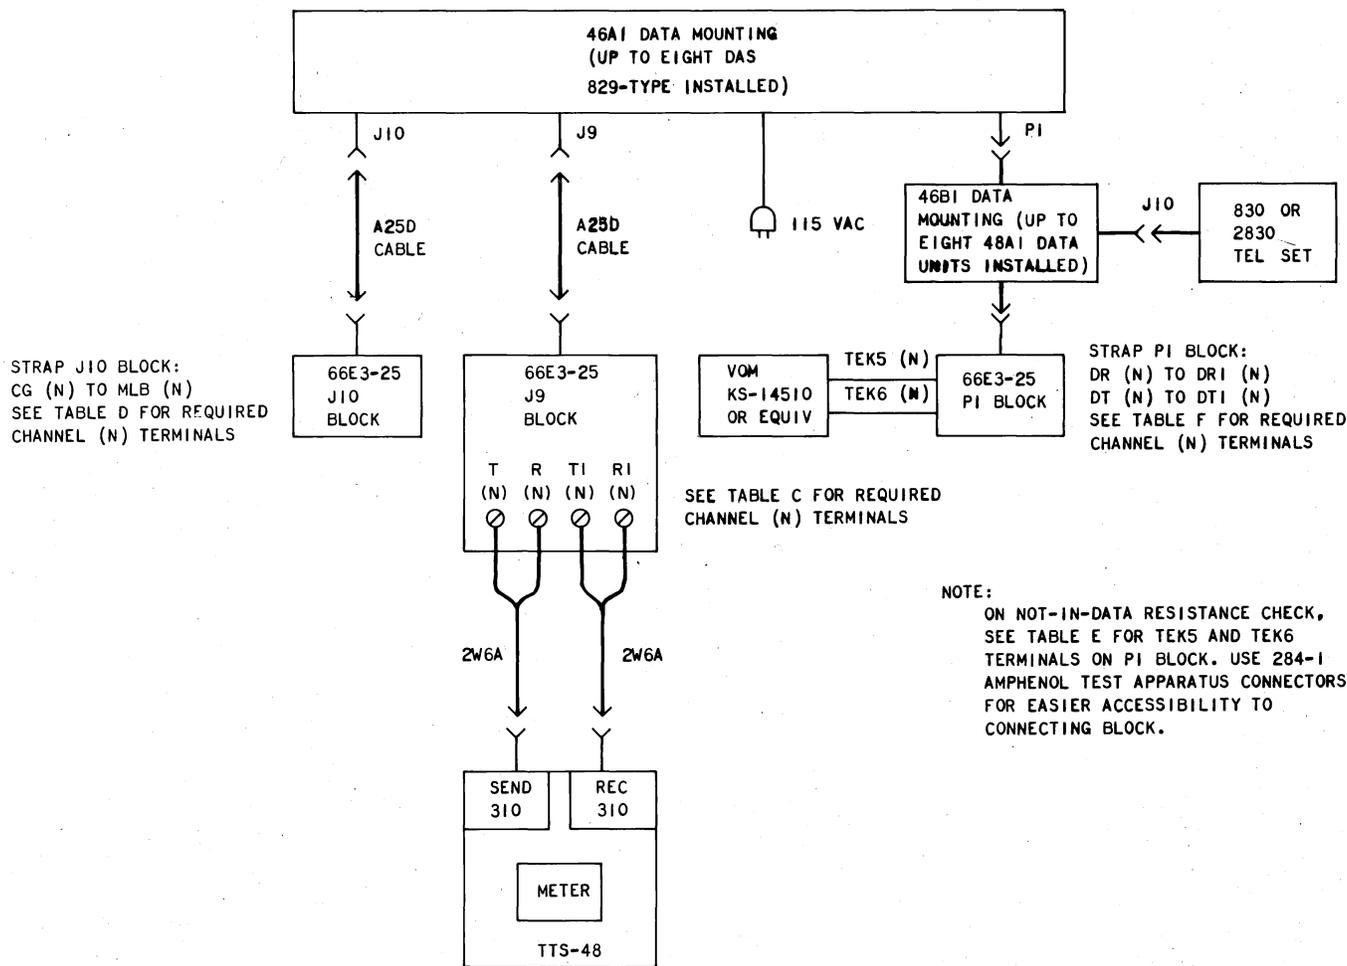
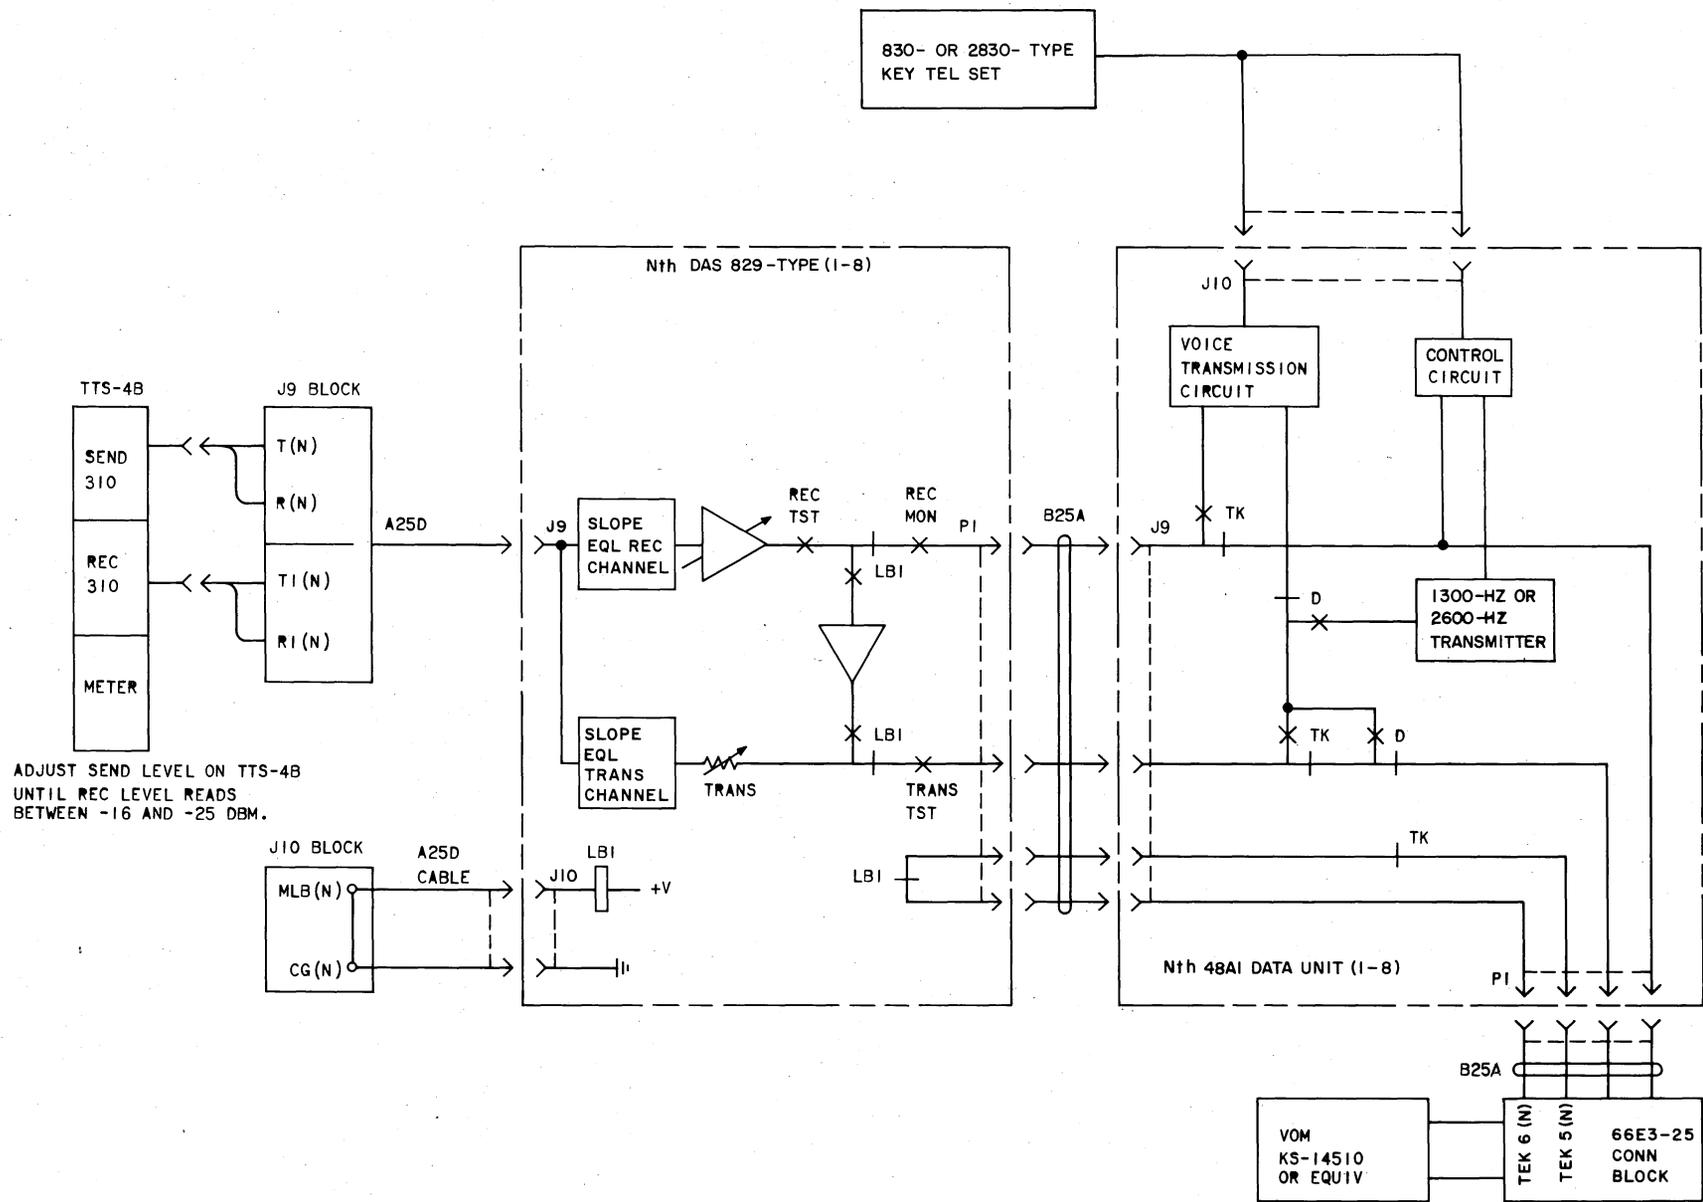

Fig. 4—Example of Test Arrangement for Testing Multiple Arrangement of DAS 829-Type and 48A1 Data Unit
Fig. 5—Circuit Arrangement for Testing a DAS 829-Type in a 46A1 Data Mounting and a 48A1 Data Unit in a 48B1 Data Mounting
3.19 When a 46A1 and 46B1 data mounting are interconnected to provide up to a maximum of eight full data/alternate voice (FDAs) arrangement, the DAS 829-types (installed in the 46A1 data mounting) and the 48A1 data units (installed in a 46B1 data mounting) require testing on an individual channel basis. The test arrangement is shown in Fig. 4.
3.22 The test procedures will test the termination for channels 1 through 8. Each channel must be tested individually. The circuit arrangement for the test is shown in Fig. 5. The test for the Nth (1-8) channel termination consists of two parts. The first part provides procedures for testing a DAS 829-type for the Nth channel, installed in a 46A1 data mounting. The second part provides procedures for testing a 48A1 data unit, for the Nth channel, installed in a 46B1 data mounting.
19	Adjust the SEND LEVEL on the TTS-4 to obtain a REC LEVEL reading of between -16 dB and -25 dB. Fig. 4 shows an example of the setup. The circuit arrangement of the test is shown in Fig. 5.